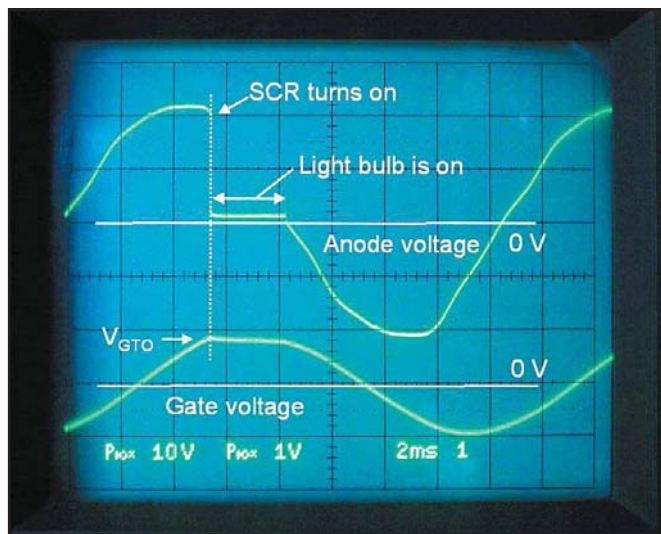

Figure 4—The SCR anode and gate voltages show a conduction angle of about 65°.
- Slowly reduce the potentiometer value until voltage across the light bulb begins to increase. You will see the gate capacitor voltage increasing to V_{GTO} (about 1 V) at which point the SCR turns ON. Continue decreasing the potentiometer resistance. The gate capacitor will charge to V_{GTO} faster and the SCR will conduct over more of the ac cycle, increasing bulb brightness and the voltage across it. Figure 4 shows one ac cycle of the SCR gate and anode voltage.